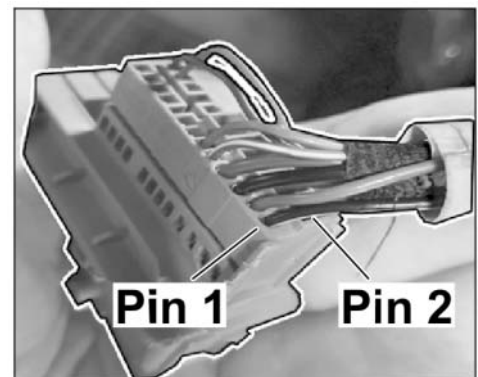

Figure 10
- 2.8 Plug wiring harness into connector for door on vehicle side. Release connector. **Green connector, pin 1 ⇒ *Figure 10-Pin 1-*: Black/yellow cable. Green connector, pin 2 ⇒ *Figure 10-Pin 2-*: Red/brown cable.**